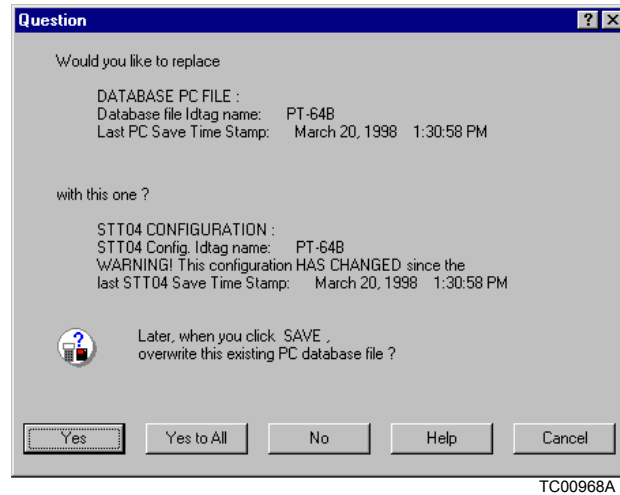

Figure O-5. Replace Configuration File Dialog
**NOTE:** If a configuration already exists, DownLink software prompts to replace the existing configuration and indicates if it has changed in the field (Fig. O-5).